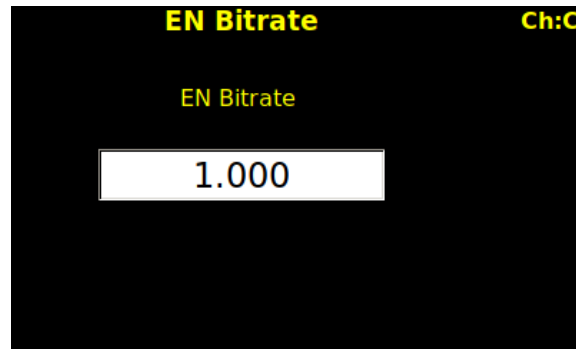

Figure 364: EVTM Embedded Transmitter EN Bit Rate Selection
- EN Bitrate - Scroll to the EN Bitrate option to select the embedded transmitter bit rate. Click on EN Bitrate to display the selection screen, as shown in Figure 364. Type the new bit rate, in Mbps, then press the Enter key on the front panel keypad.